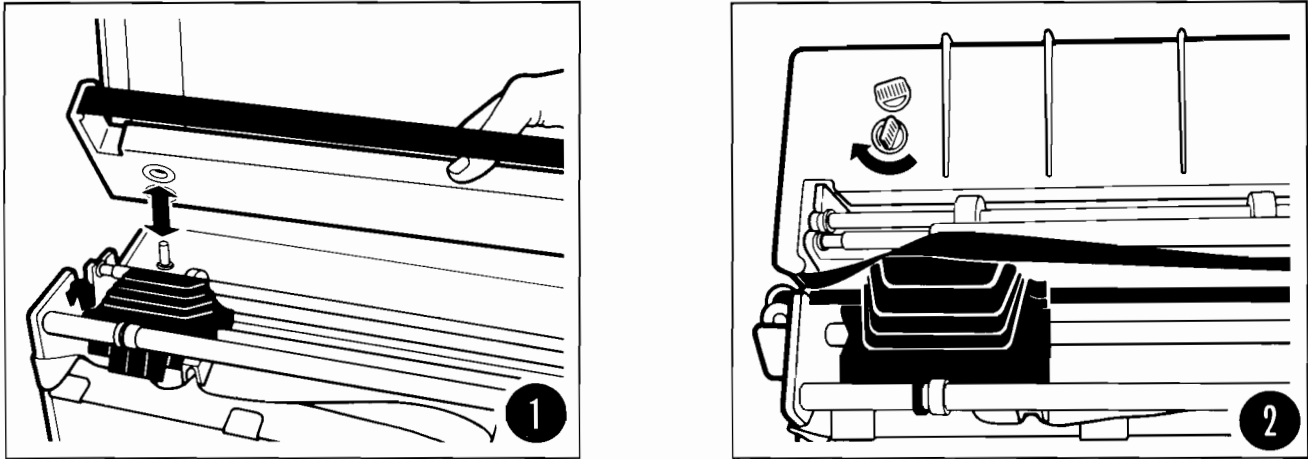

Figure 2-2. Ribbon Installation.
Use the following procedure to install the new ribbon. See Figure 2-2.
6. The ribbon may be twisted slightly with a portion of it resting face down on top of the print head. This is normal. (If the ribbon is twisted other than the way shown in Figure 2-2, it will not load. Remove and reinstall the cartridge.)